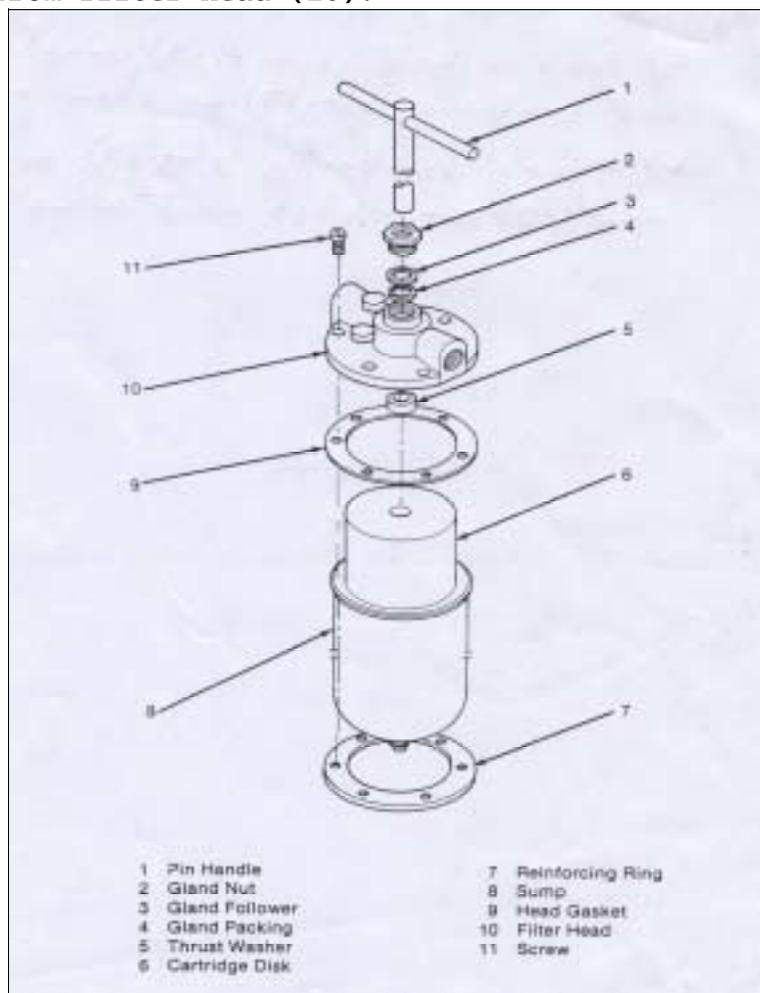

Figure 5-19
b. Fuel filter cartridge, removal (Figure 5-19)
(1) Removal